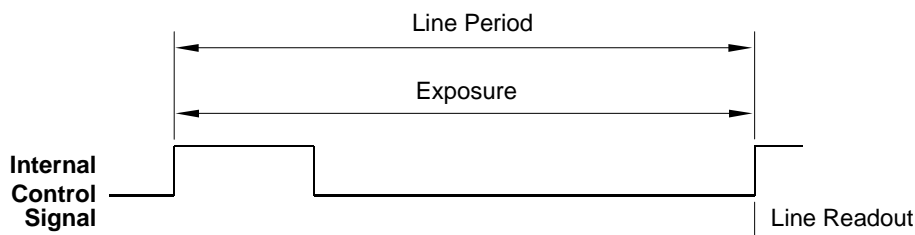

Fig. 29: Free Run, Edge Controlled Mode
- In **free run edge controlled** mode, line acquisition begins on the rising edge of the internal control signal. The pixels are exposed and charge is accumulated over the full line period (from rising edge to rising edge of the internal control signal). The falling edge of the control signal is irrelevant. The pixel values are read out of the sensor on the rising edge of the internal control signal as shown in Figure 29. The line period is determined by the setting for the line period parameter.